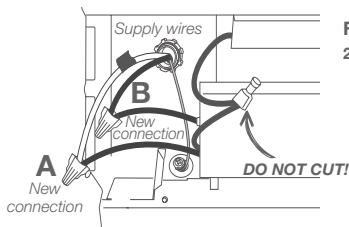

Figure 7b
If you're wiring a **WALL** thermostat for your heater, follow the instructions below and the diagrams in Figures 7b or 8b, depending on which side you are wiring. Route your electrical supply wires from the circuit breaker to the wall thermostat, and then to the baseboard heater.
- For 240 and 208 volts, it doesn't matter which heater wire (Figures 7b or 8b). Wrap supply (white) wire with black tape to identify it as hot.
- D. For baseboard #2, make the connections as shown in Figure 7b or 8b on page 4.